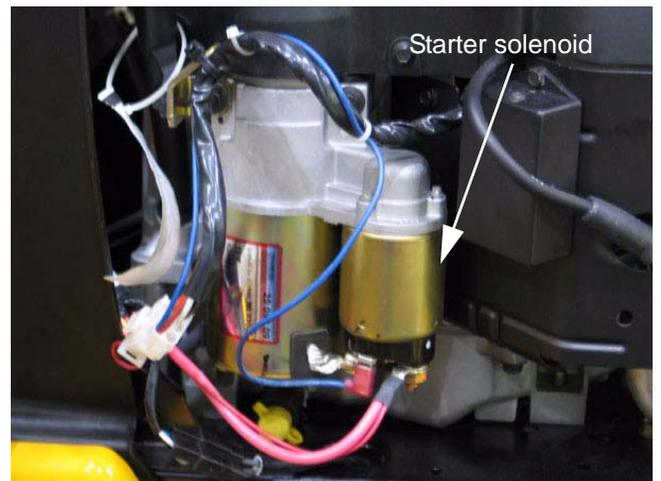

Figure 39.10
39.10. The starters on the Kohler Command engines have the starter solenoid on the starter. See Figure 39.10.